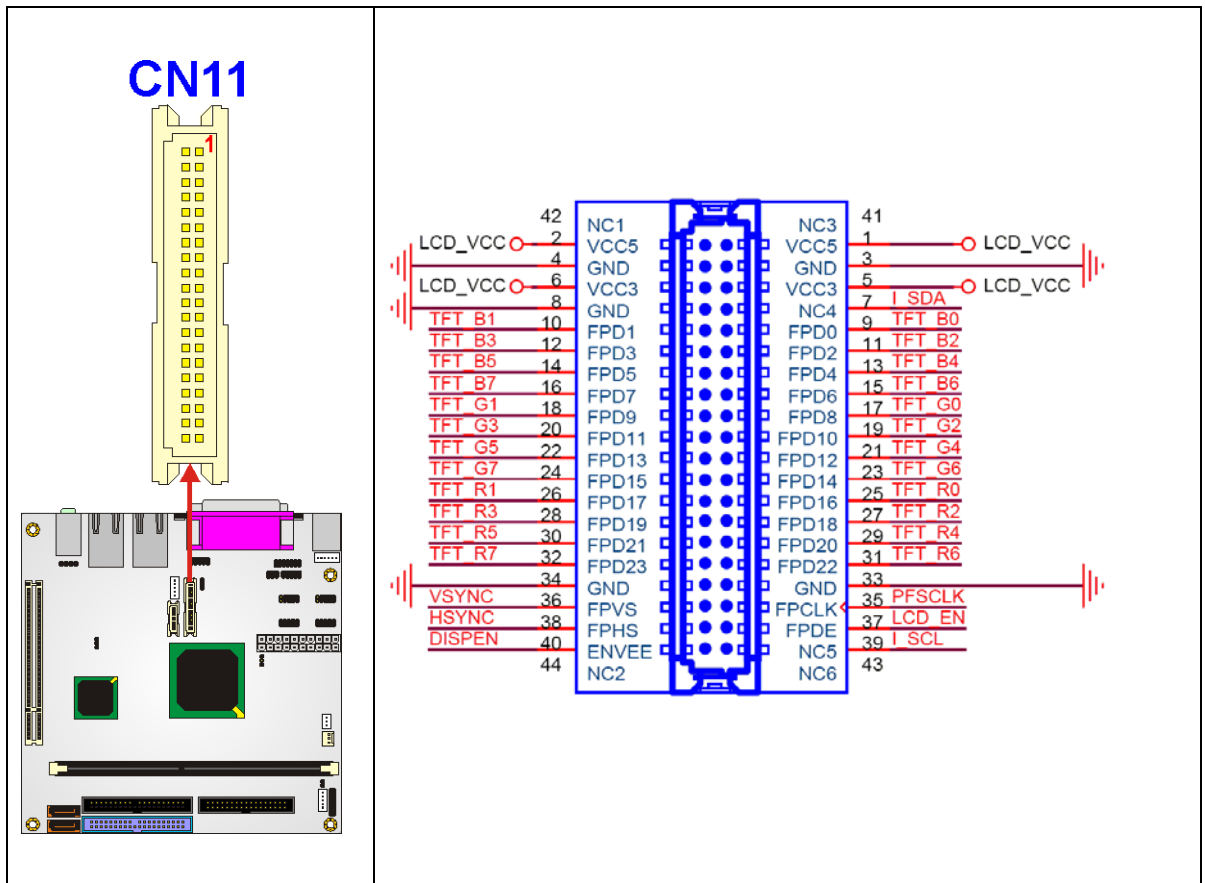

Figure 3-13: LCD TTL Connector Locations
- CN Location: See **Figure 3-13**